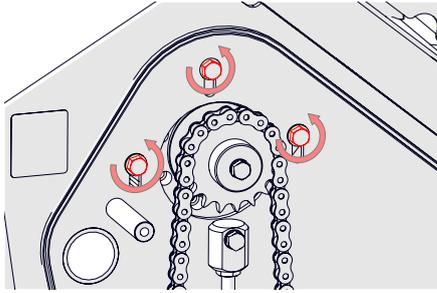

Fig. 15B - Loosen slightly the motor 3 x top nuts.
3. Loosen slightly the 3 x top nuts supporting the motor [2 x 13 mm spanner] (Fig. 15B).